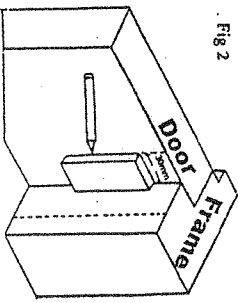
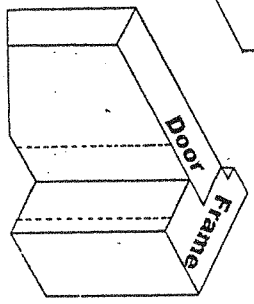

Fig 2
Fig 3
2. With the door still in the closed position, place the wooden marker block vertically against the door (fig.2) and repeat the process (fig.3) to leave a guideline on both the door and the frame.